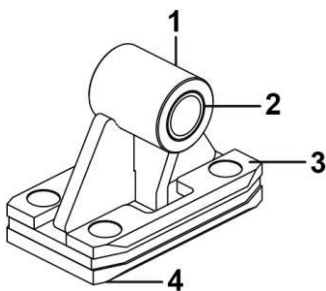

Fig. 3.32 Assembling and replacing the slider
- a. Install the shaft sleeve (2) into the shaft hole of the support (1), as shown in Fig. 3.32;
- b. Fasten parts 3 and 4 shown in Fig. 3.32 to part 1;